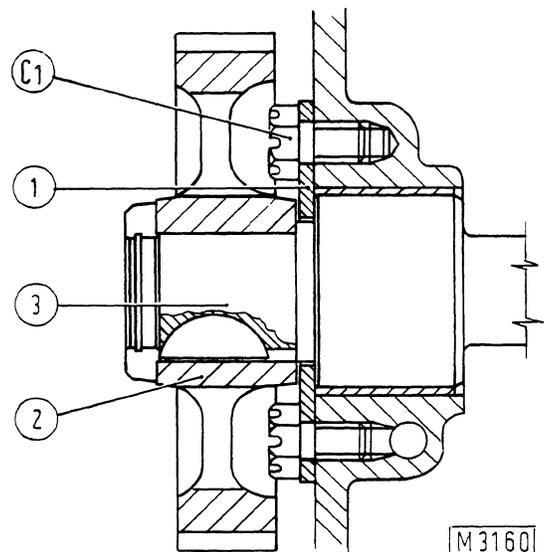

Fig. 14 - Camshaft front end section.
The camshaft, located in the engine block, is supported by seven bushings coated with anti-friction material. The camshaft is held in place at the front by a thrust plate (1, fig. 14).
NOTE - In case gear (2,fig.14) should be renewed, install thrust plate (1) on the camshaft and heat gear (2) in oven to obtain a difference in temperature bet-